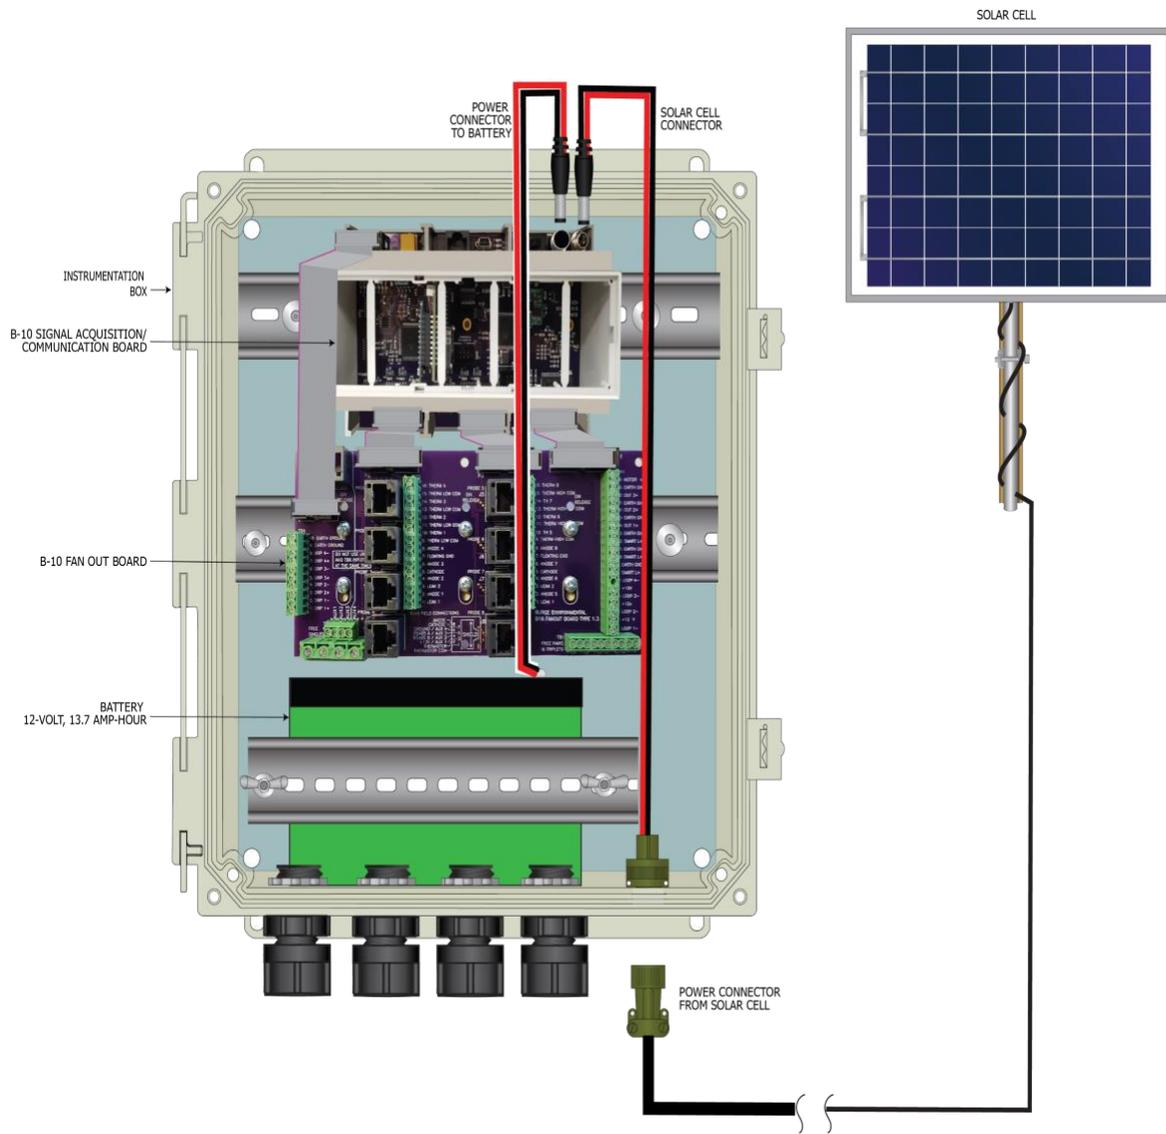

Figure 7A: Solar Cell/Battery Power Option (Series 100)
The solar configuration allows for the installation of a battery (12-volt, 13.6 amp-hrs) within the instrumentation box (Figure 7A). A solar charger (10 or 30 watt) connects to the 6-pin white connector (J10) located on the face of the B10 signal acquisition/communication board (Figures 4 and 5). A solar cell cable connects to the power connector (screw connector) located on the bottom surface of the instrumentation box (Figure 7A). The solar-powered configuration uses two coaxial cables within the instrumentation box: battery cable and power cable (Figure 7A). The solar cell cable connects to the 12-volt power connector located on the lower surface of the instrumentation box. The solar cell cable connects the 12-volt power connector with the solar connector (coaxial) on the B10 board (Figure 7A). A second cable (battery/power cable) connects the battery connector (coaxial) on the B10 Board (Figure 7B) with the 12-volt battery terminals.
Step 4: connect the solar cell cable to the power connector located on the lower surface of the instrumentation box (Figure 7A).